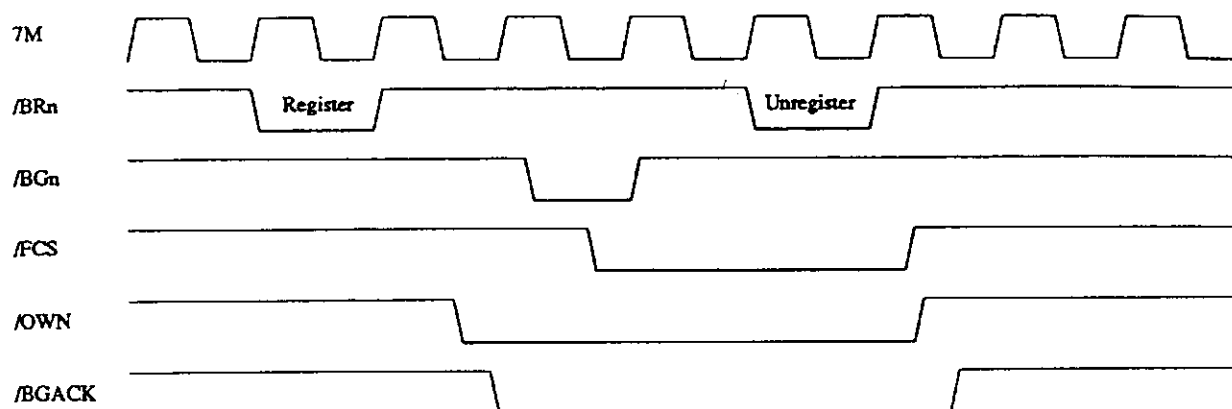

Figure 3-3: Zorro III Bus Arbitration
*Figure 3-3* shows the basics of Zorro III bus arbitration, which is pretty simple. While it uses some of the same signals as the 680x0 inspired Zorro II bus arbitration mechanism, it has nothing to do with 680x0 bus arbitration; the */BRN* and */BGN* signals should be thought of as completely new signals. In order to register with the bus controller as a bus master, a PIC asserts its private */BRN* strobe on the rising edge of the 7M-clock, and negates it on the next rising edge. The bus controller will indicate mastership to a registered bus master by asserting its */BGN*. Once granted the bus, the PIC drives only the standard cycle signals: addresses, */FCS*, */EDSn*, data, etc. in a full cycle. The bus controller manages the assertion of */OWN* and */BGACK*, which are important only for bus management and Zorro II support. While a scheduling scheme